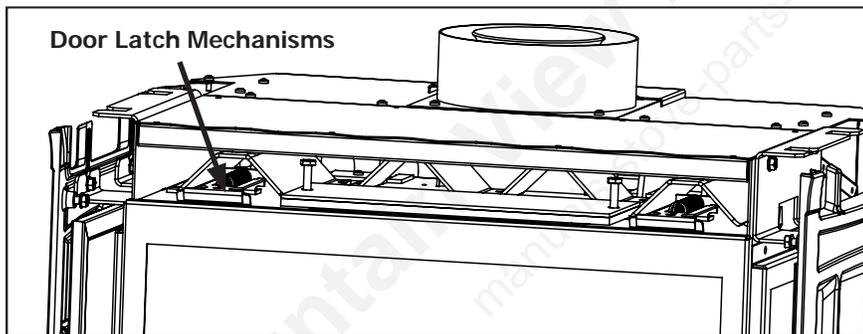
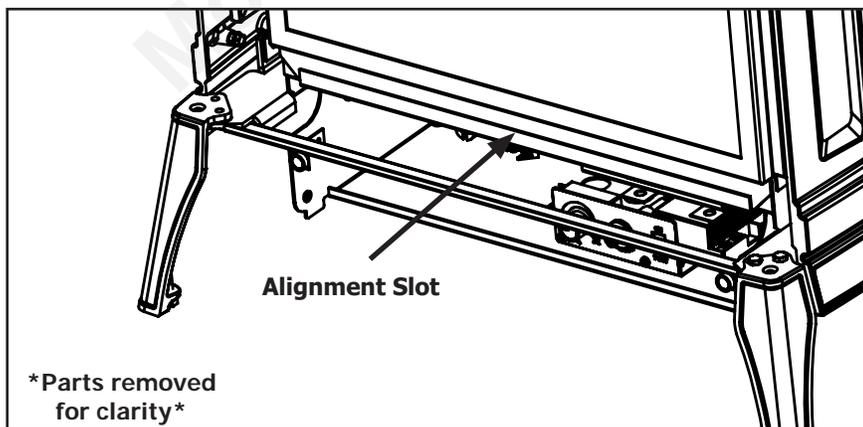

Figure 22. Top latches for glass door (cast top and door removed)
Figure 23. Bottom Alignment Slot for glass door.
In order to install the log set, and for regular cleaning, the glass door must be removed. The cabinet front must first be removed, as outlined in the section above, before accessing the door latches. There are two (2) door latch mechanisms on top the glass door as shown in Figure 22. Each latch can be pulled straight out and up by hand. When the top latches are unhooked, the door can be lifted up out of the alignment slot at the bottom of the firebox, shown in Figure 23.